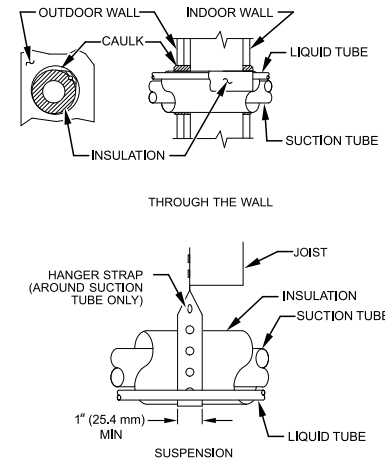

Fig. 1 – Connecting Tubing Installation
6. When passing refrigerant tubes through the wall, seal opening with RTV or other pliable silicon-based caulk (See Fig. 1).
8. Do not suspend refrigerant tubing from joists and studs with a rigid wire or strap which comes in direct contact with tubing (see Fig. 1).
10. When necessary, use hanger straps which are 1 in. (25 mm) wide and conform to shape of tubing insulation (See Fig. 1).